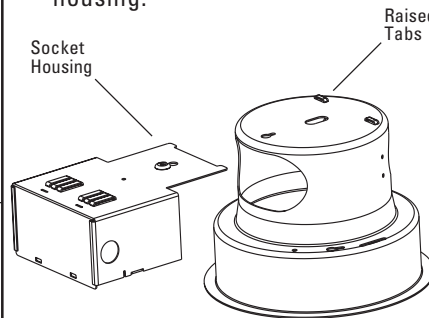

Figure 1
2. Attach socket housing to top of reflector by aligning/inserting corners of socket housing into raised tabs on top of reflector as shown in Figure 1. Align screw in socket housing with keyhole slot in reflector, push forward and tighten screw securely.